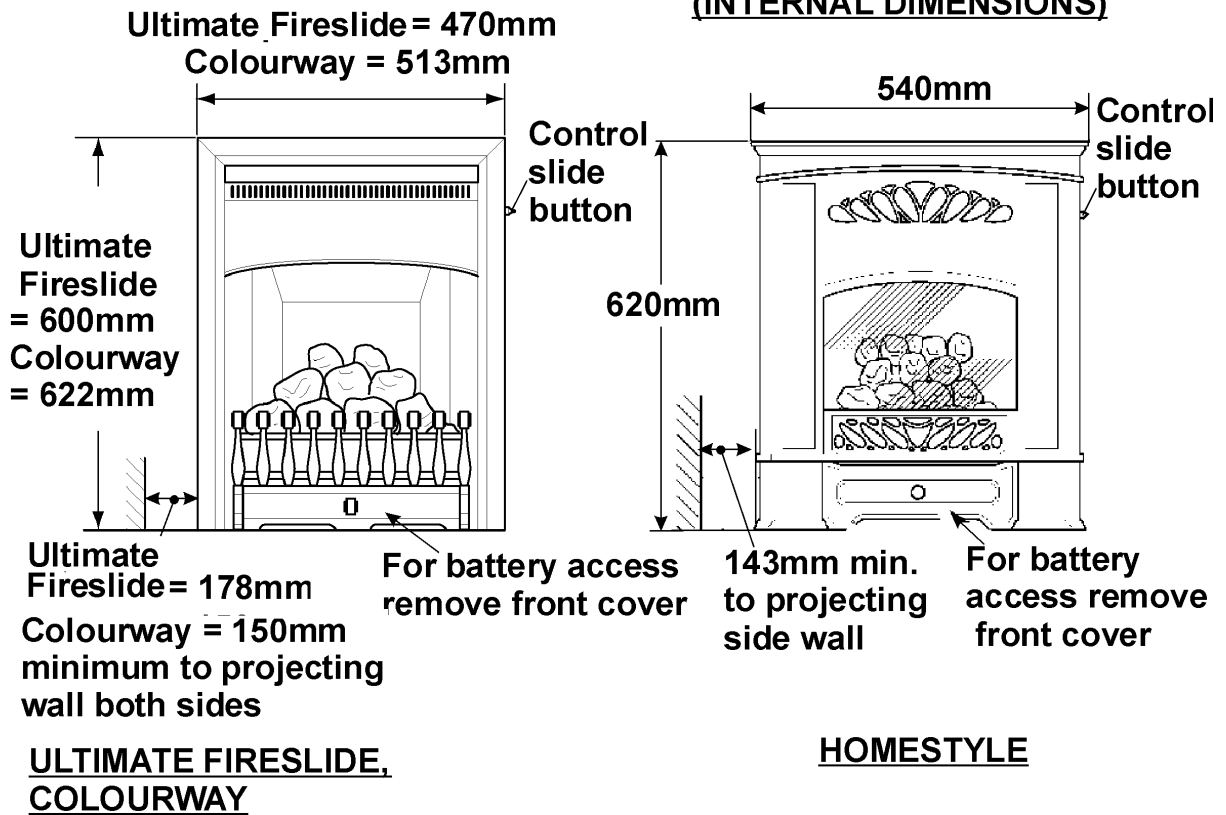

Figure 1 Installation Requirements
2.6 The minimum allowable distance from the outside edge of the front surround to a corner wall or other projection which extends further forward than the front of the appliance at either side is shown in figure 1.
2.9.1 To a fireplace complete with surround and hearth complying with B.S 1251. The required fireplace, hearth, debris catchment area and clearance dimensions are shown in figure 1.
2.9.2 To a fireplace incorporating a twin walled metal flue box complying with the constructional requirements of the current edition of BS 715 and standing on a non-combustible base. The dimensions of the flue box must conform to the opening shown in figure 1. For flue details see section 2.10.
2.9.4 To a builder's opening within the dimensions shown in figure 1.
The appliance must not be fitted directly against a combustible wall. If the appliance is to be fitted against a wall with combustible cladding, the cladding must be removed from the area covered by the outer surround (See figure 1). We suggest that the actual surround is used as a template to mark the area for combustible cladding removal.